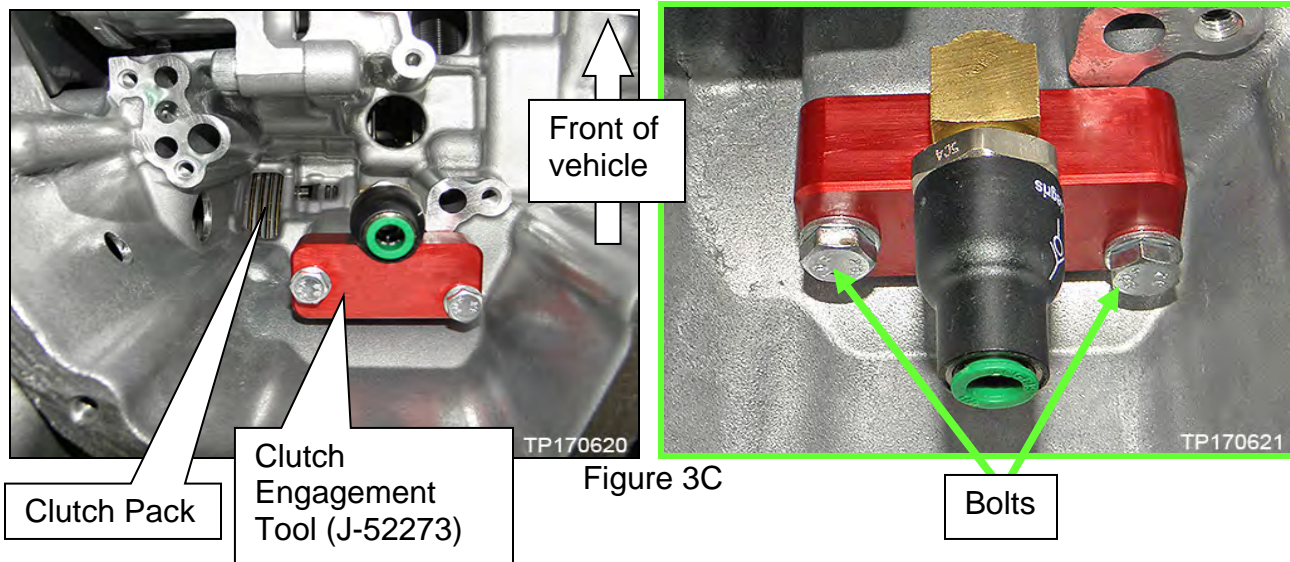

Figure 3C
- a. Install the Clutch Engagement Tool (J-52273) to the CVT case with two bolts where shown in Figure 3C finger tight.